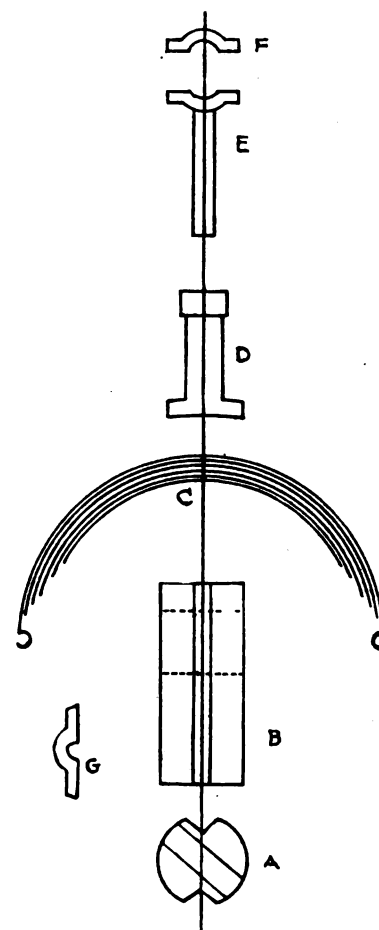

FIG. 3
**RAM**—Next came the ram, shown in Fig. 3. Parts A and B
At G in Fig. 3 is shown one of the ears that are bolted to the sides of the ram, one on each side. To make these I took 1-1/2 square stock and fullered on each side of the center and drew the ends out as shown in the sketch. I then chucked them in the lathe and drilled an 11-16 hole through them in the center part and then sawed it open and dressed it out so as to appear as shown. Then through the flat ends I drilled 11-16 holes to match those in the ram. These ears serve as bearings for the spring links and should have oil holes drilled.